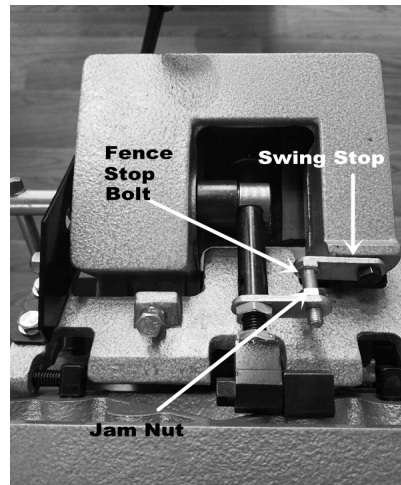

Figure 15
2. Flip the 90° swing stop into the position shown in Fig. 15
3. Loosen the jam nut on the 90° fence stop bolt Fig. 15